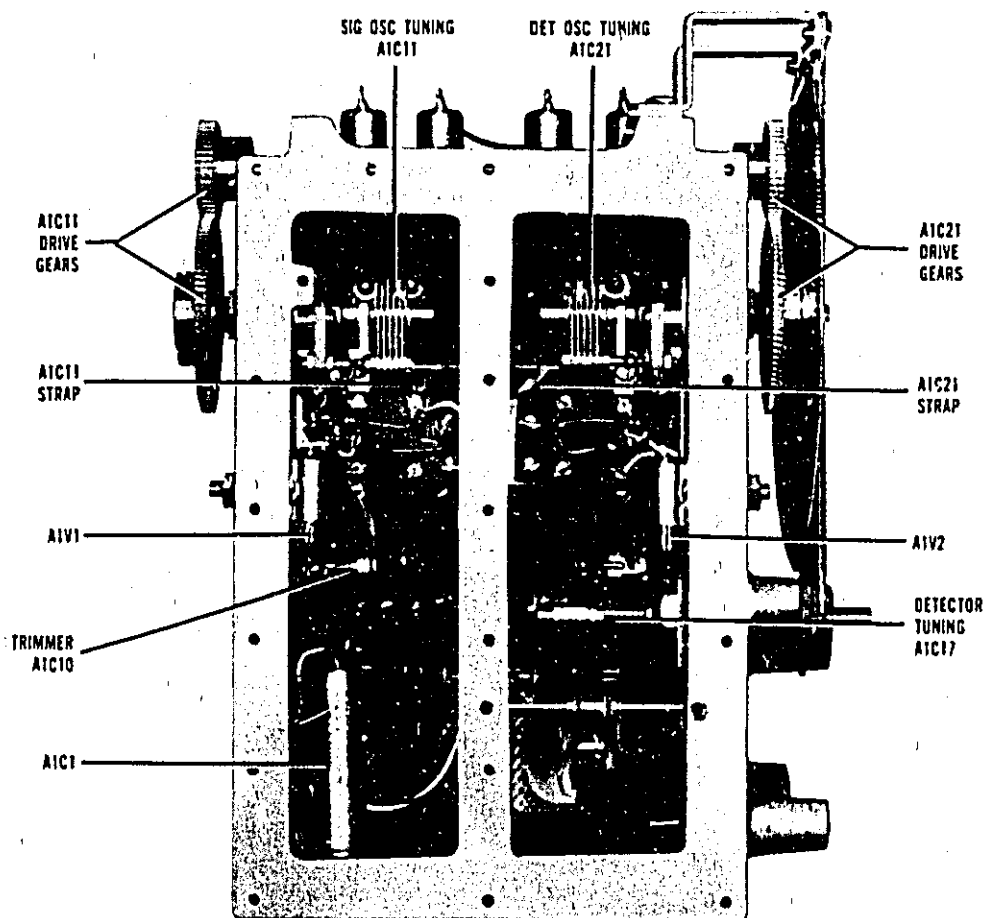

Figure 5-2. Oscillator Assembly, Left Side
- c. Rotate OSC FREQ control clockwise until scale divider line (below 4.0 MHz) coincides with fiducial hair line; the plates of capacitors A1C11 and A1C21 (Figure 5-2) should be fully meshed.
- d. If either of the capacitors do not fully mesh, adjust the capacitor drive-gears (Figure 5-2).